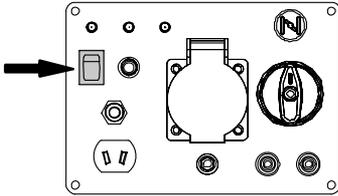

Fig. 4
5. Start second generator and wait for green Ready LED to illuminate (Fig. 4).